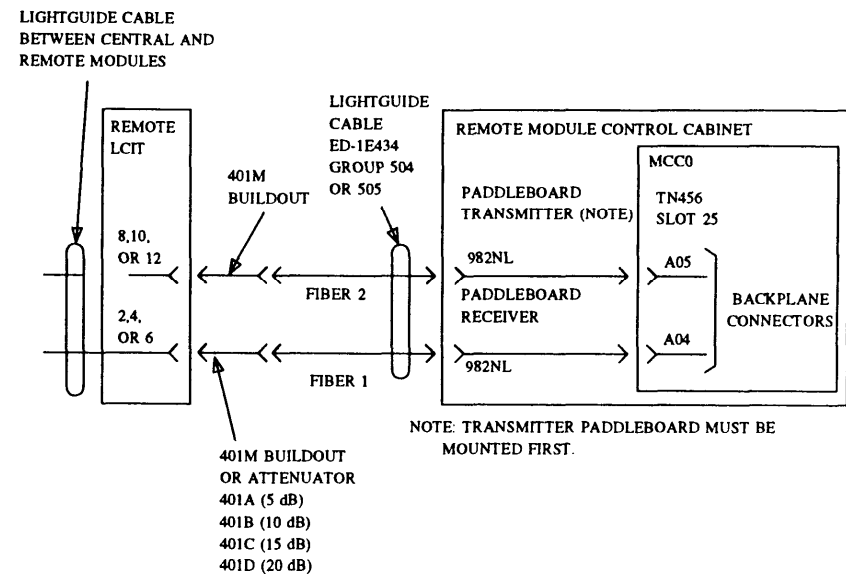

Figure 26-26. Remote RMI Fiber-Link Connections for Unduplicated MC (Phases 1 and 3 — Traditional Module at Remote Site)
Figures 26-26 and 26-27 show the RMI fiber link for the remote location for an unduplicated and duplicated system. Install the RMI fiber link as follows:
5. Connect the fiber-optic cables to the appropriate attenuator as shown in figures 26-26 and 26-27.